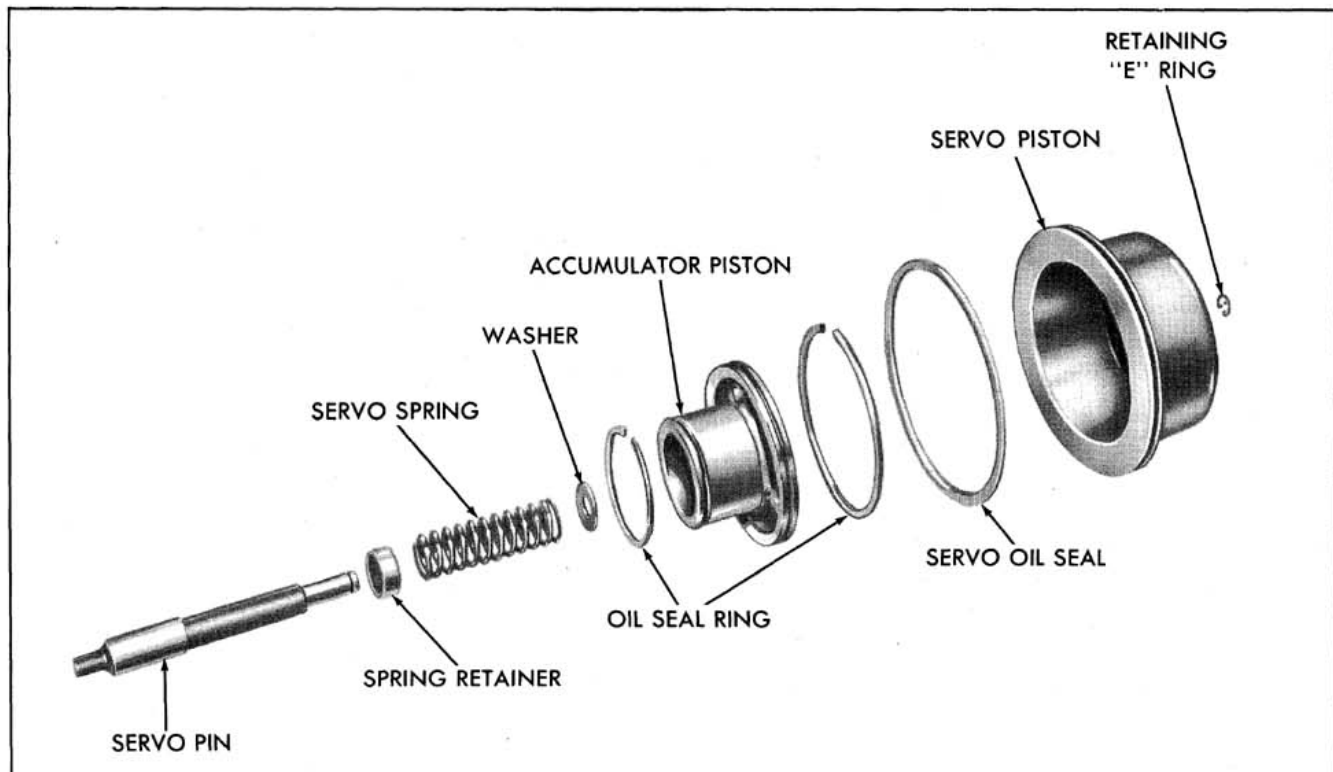

Fig. 6-93 Rear Servo and Accumulator Assembly
3. Remove rear servo piston and seal from band apply pin. (Fig. 6-93)
1. Install spring retainer, spring and washer on band apply pin. (Fig. 6-93)